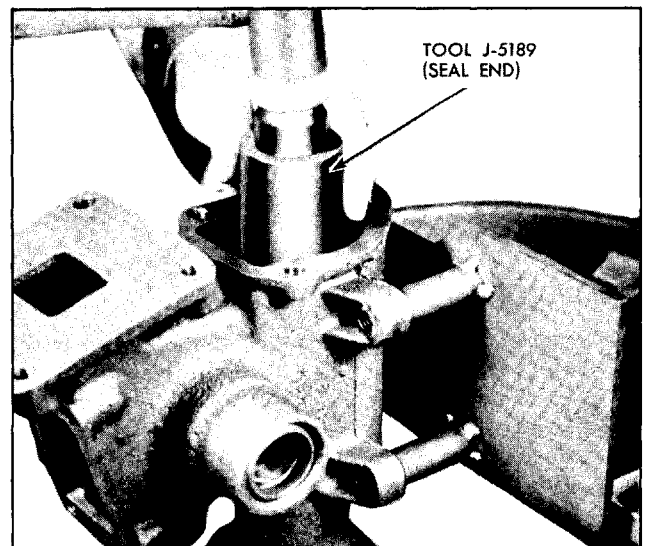

Fig. 9-39 Installing Bearing in Housing
2. Install new bearing in housing using soft hammer (to avoid damaging tool) and installing tool J-5189 (Fig. 9-39). (Side of bearing with trademark should be against tool.)